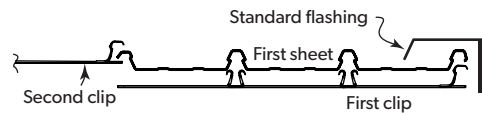

FIGURE 9.1.9:
4. Align the clips using a string line (Figure 9.1.9) or the first sheet as a straight edge to align the clips as you fix a clip to each support working towards the high end of the roof.